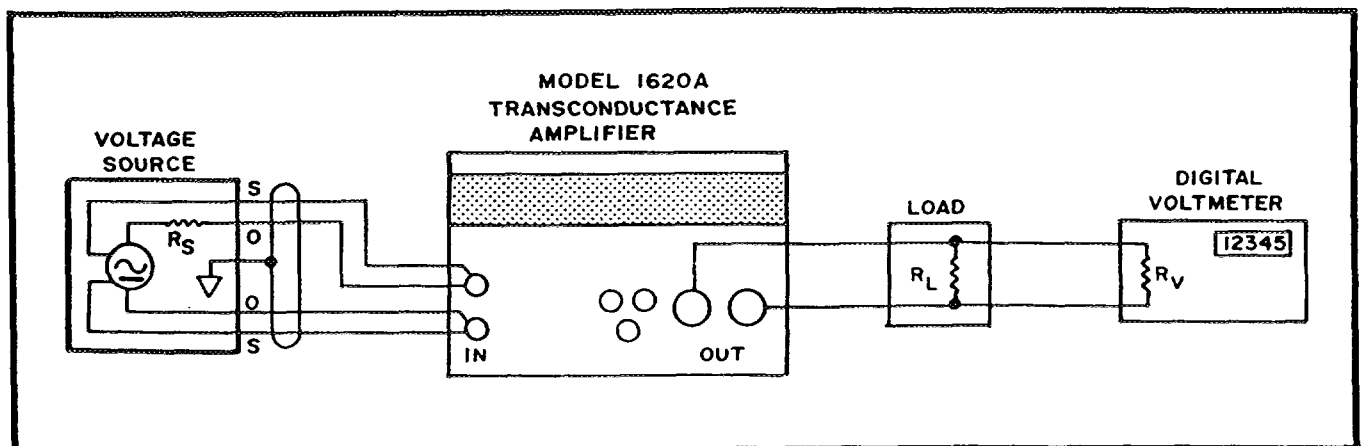

Figure 3-4. Input Connectors and Error Sources
The error source formed by the source impedance of the input voltage source forms a resistive divider with the 100k ohm input resistance of the 1620A. See figure 3-4.  $R_S$  is the source resistance and  $R_A$  is the input resistance of the 1620A.
c. Keep the source impedance ( $R_S$ ) of the input voltage much lower than the input resistance ( $R_A$ ) of the 1620A. This avoids dividing the input voltage. See paragraph 3-10 and figure 3-4 for full details. Use sense leads to connect the voltage source to the input terminals of the 1620A to minimize cable and source impedance errors. Always sense directly at the input voltage terminals of the 1620A.
d. A potential error exists when the load current is diverted by any parallel impedance. As an example, a voltmeter used to measure the voltage across the load may divert sufficient current to uncalibrate the system. See figure 3-4 and note load resistance  $R_L$  and voltmeter resis-